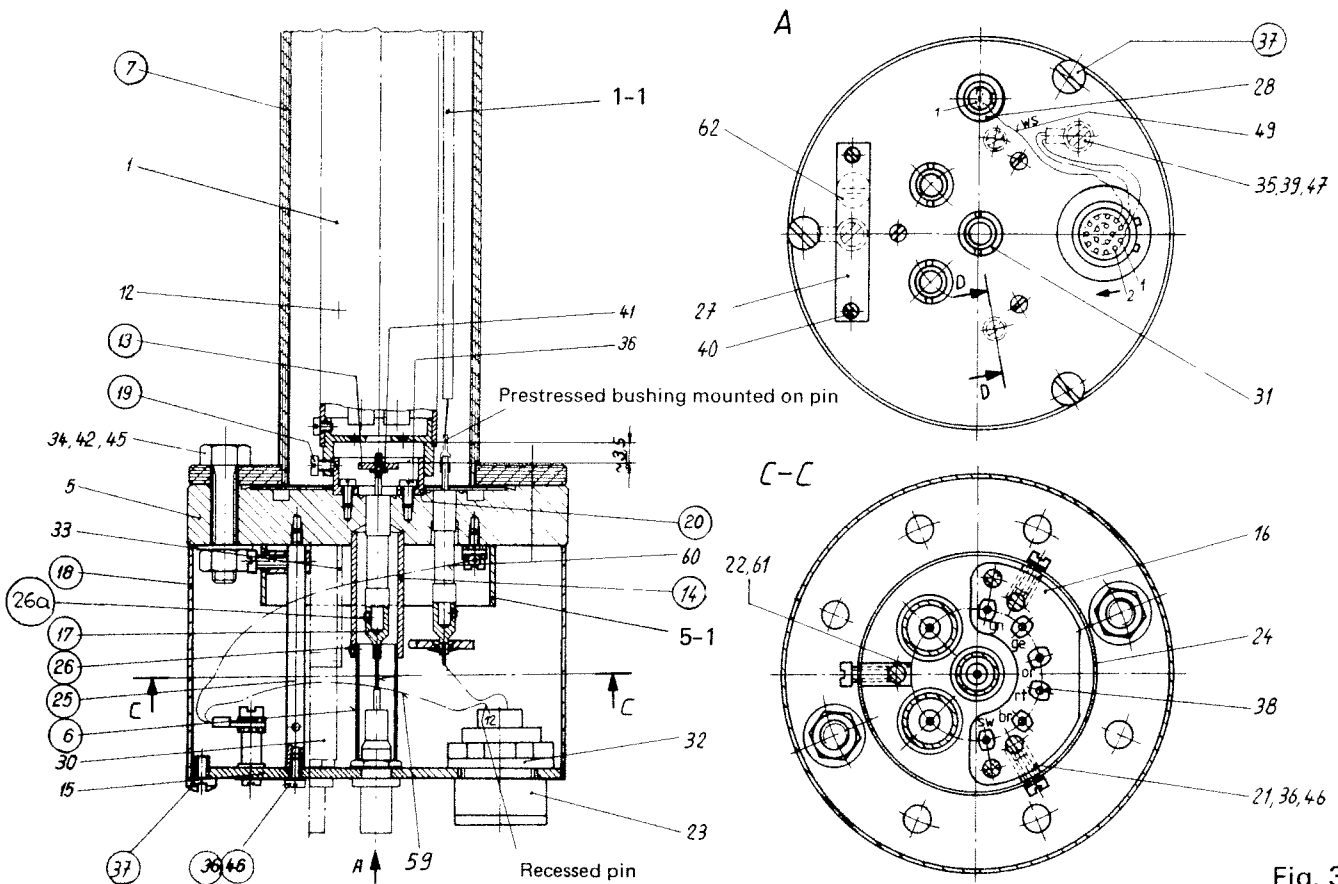
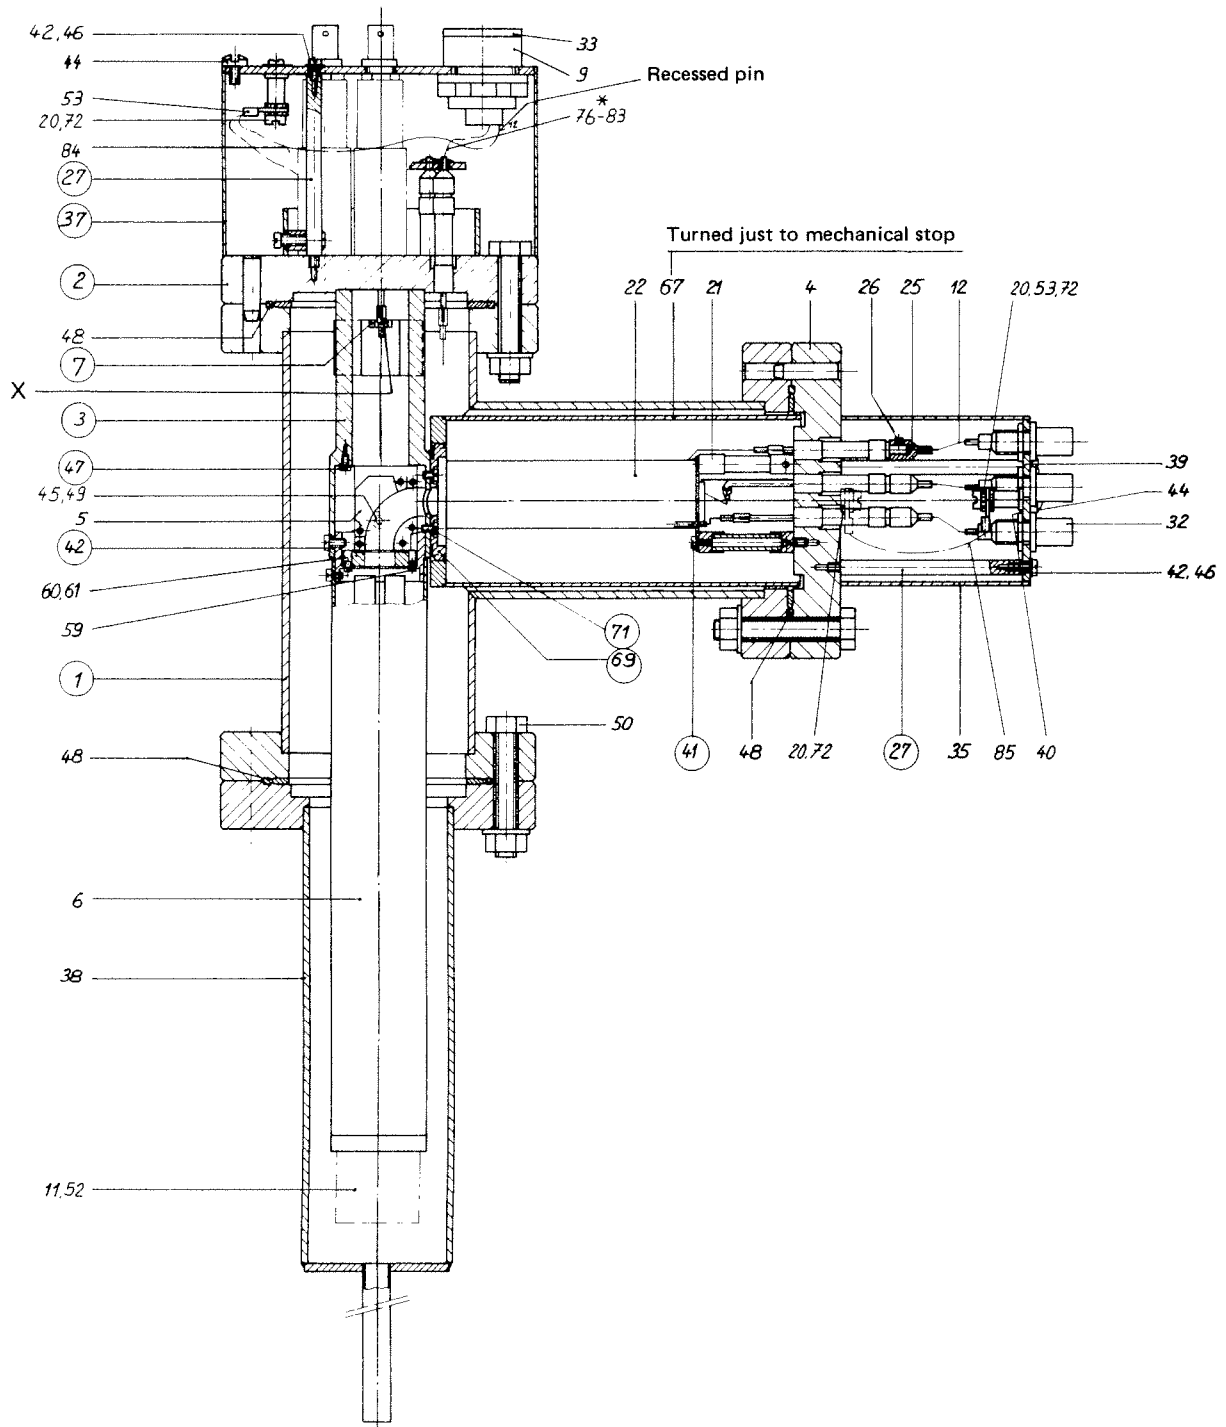

Fig. 3.1
Fig. 3.2
The general design of the connection heads can be seen in Figs. 3.1 and 3.2.
4.2 Analyzer with Faraday cup (Fig. 3.1)
- Remove the cover (18) from the connection head
- Remove the protection tube (7)
- Secure the cover in place (18)
4.3 Analyzer with off-axis SEM (Fig. 3.2)
In the circuit described in 4.4.2.1 to 4.4.2.3, the large outside plate on the deflection condenser is grounded and the inner plate is on a negative voltage (DFEL. I). In the standard circuit (Fig. 3.2) the outside plate is connected to the axial feedthrough (x) to which the EP is connected for direct ion current measurement (Faraday mode).